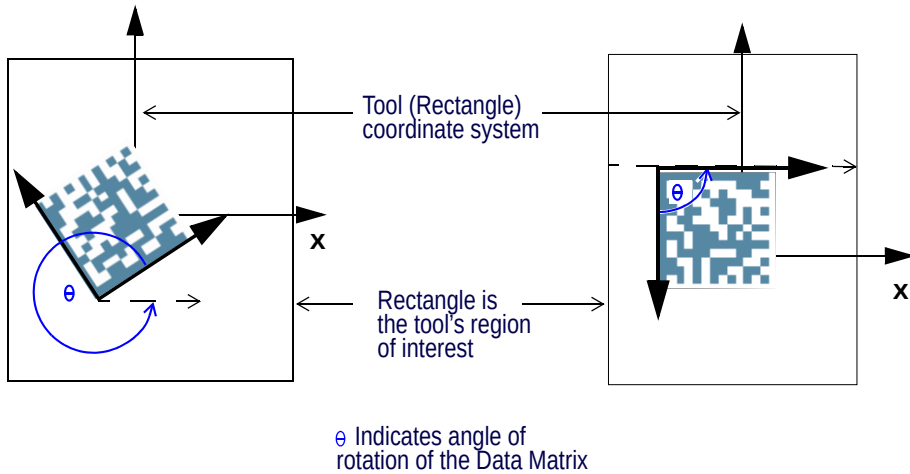

Figure 432 Data Matrix Angle of Orientation
- **Angle:** The angle of rotation of a data matrix is the counterclockwise angle between the data matrix's X-Axis and the X-Axis of the Rectangle, i.e. the region of interest. See examples in Figure 432.